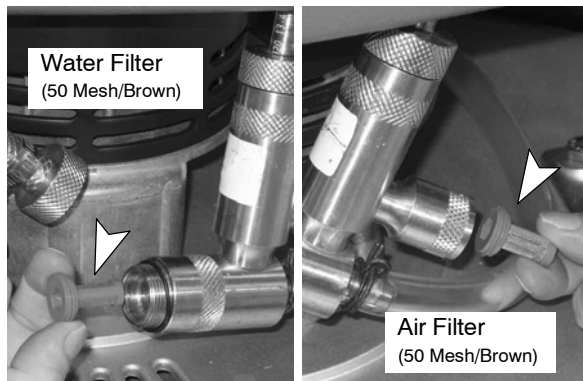

FIG. 56
2. Replace the water and air filter (Figure 56). An 8mm hex wrench required to install new water filter.